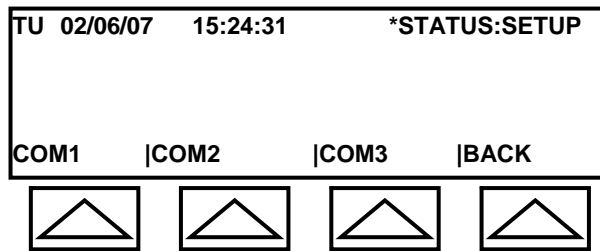

Fig. 4-14b: Serial Submenu
The screen will appear as in Figure 4-14b.
1. Select COM1 in the Serial Submenu (see Figure 4-14b).
The LCD displays the Serial Submenu (see Figure 4-14b).
1. Select COM2 in the Serial Submenu (see Figure 4-14b).
1. Select COM3 in the Serial Submenu (see Figure 4-14b)